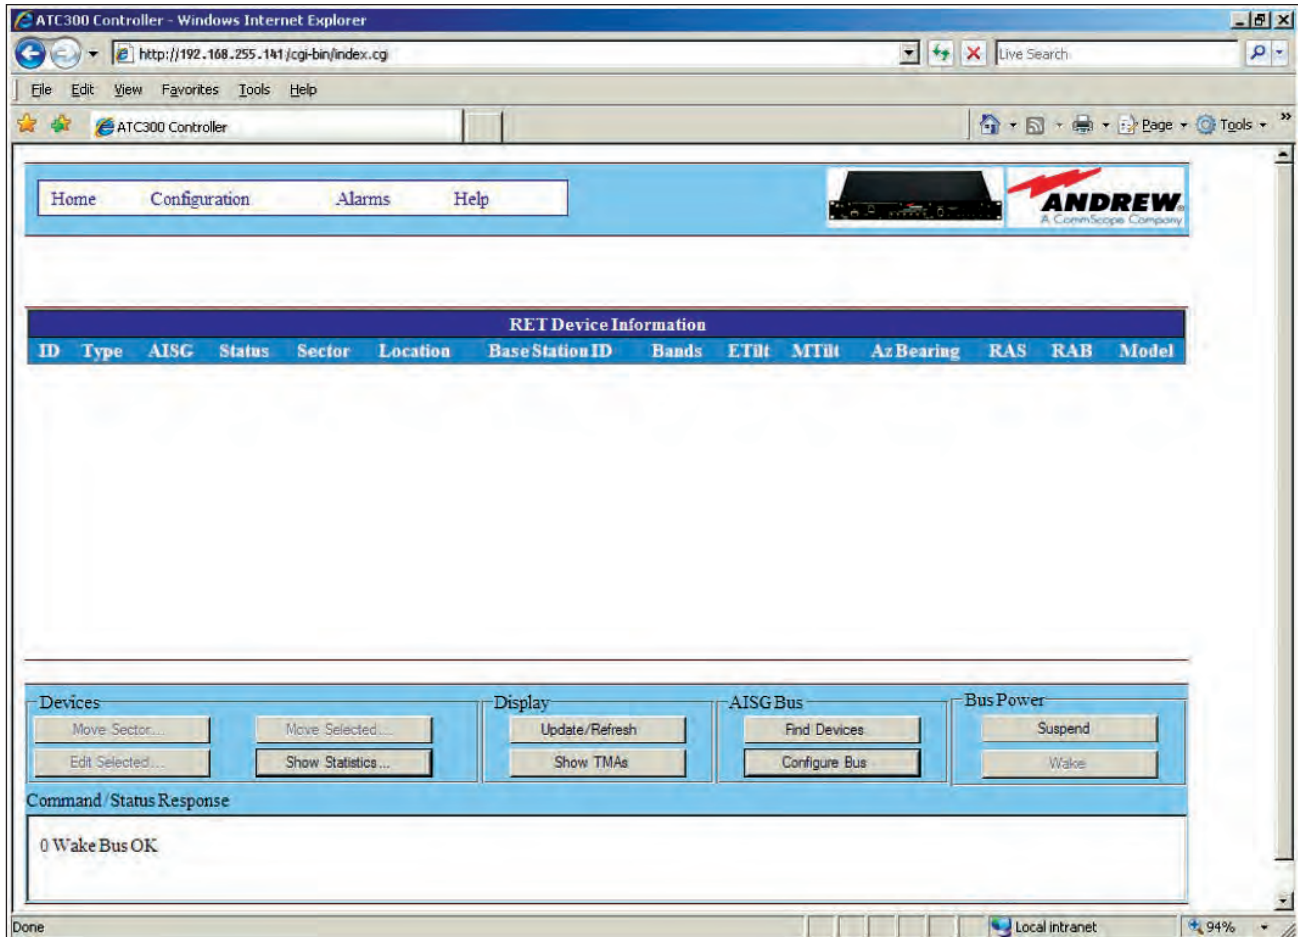

Figure 9-3. Controller's Main Interface Screen.
- Double-click on an Internet browser to verify that the computer is connected to the controller. If you are using the default IP address for the controller (192.168.255.141), the Internet browser (Netscape and Mozilla not supported) will automatically open to the controller's main interface screen (Figure 9-3). If you are using a different IP address (see Chapter 5), enter that alternate IP address for the controller in the browser window's URL.